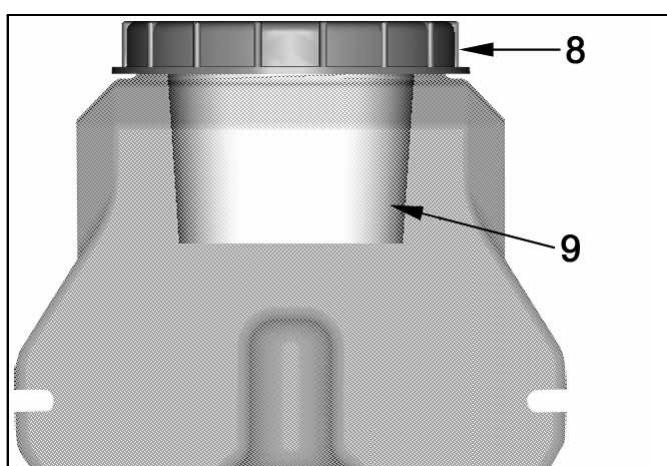

Fig. 5 Filling of the 5-liter reservoir
- shall regularly be filled with clean oil through the filter insert 9 (Fig. 5)
- ⌚ Should the oil level be too low, open the reservoir cover 8 (Fig. 5).